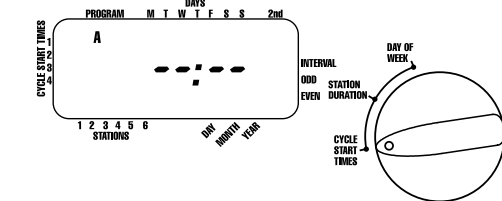

FIGURE 4: LCD Display with Start Time
- The way you set the cycle start time is the same for both programs. Turn the rotary dial to the **CYCLE START TIMES** position in the program that you want to set. The display will show an A or B depending on which program you have selected. The display will show -- : -- and a blinking cursor in **CYCLE START 1** location [See Figure 4].